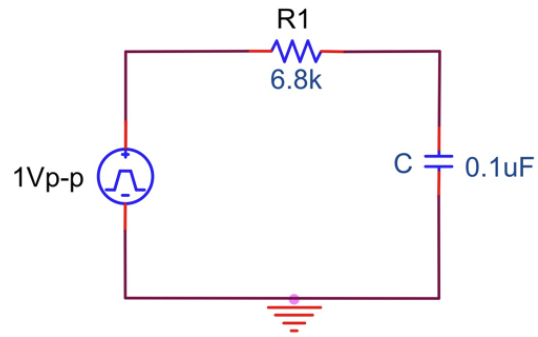

Figure 10.10
3. Construct Figure 10.10 and adjust the frequency of the function generator to obtain an adequate display (5τ).
2. Simulate Figure 10.10 and obtain the same output as your oscilloscope.